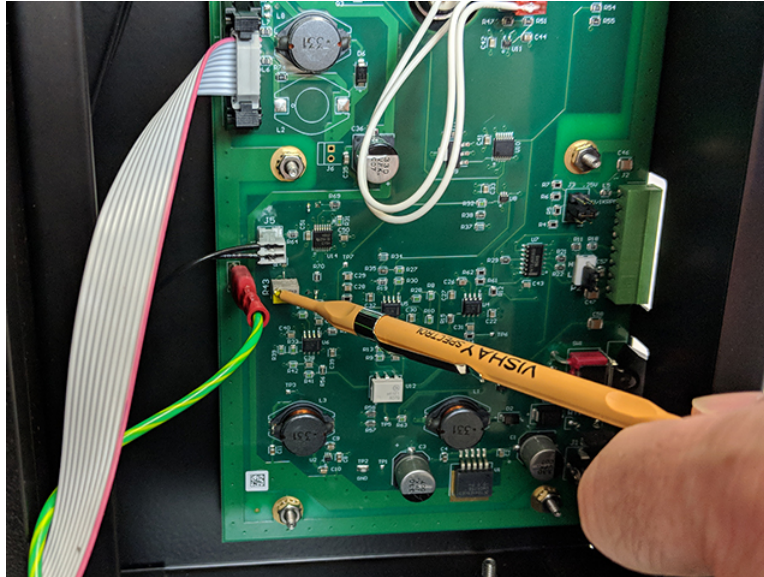

Figure 2-7. Adjustment of the Trim Potentiometer Screw to Calibrate the Rotation Rate
12. Use the potentiometer adjustment tool to turn the trim potentiometer screw located at position R43 of the control unit circuit board (see Figure 2-7). Doing so will adjust the blue LED display of the WaveVortex 10 rotation rate.